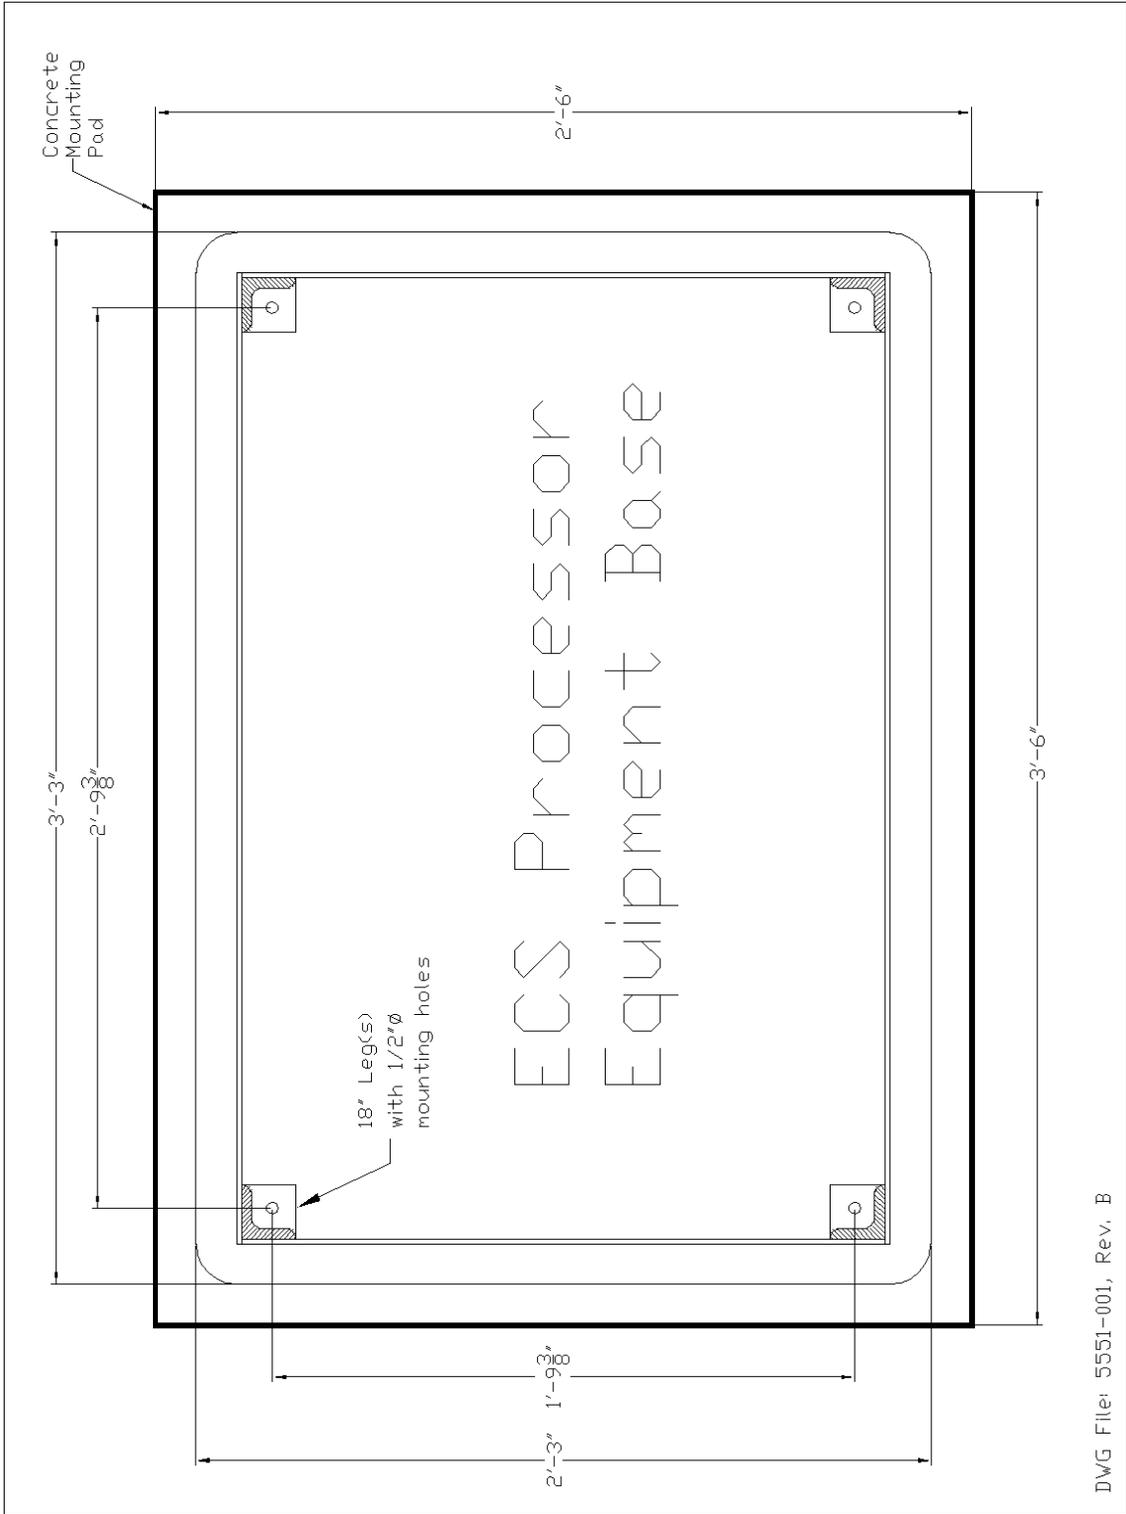

Figure 9: Concrete Mounting Pad Dimensions
- ▶ **See figure 9: Section 14 / Page 32**